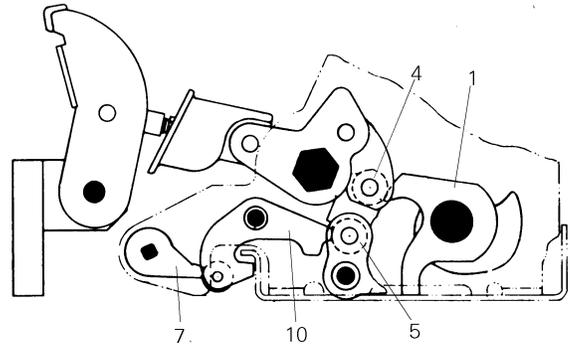

Figure 5-8. Breaker mechanism in the CLOSED position.
Figures 5-8, 5-9, and 5-10 show the mechanism components in the CLOSED, TRIPPED, and RESET conditions, respectively. Numbers in parentheses refer to the indicated items in the figures listed in Table 5-1. The closing spring is in the charged position for all of these details.
*Closed Position* – The movable contacts are pushed against the stationary contacts by the toggle linkage, as illustrated in Figure 5-8. The toggle linkage is held in position through the engagement of its cam roller (4), with the prop (1), the secondary latch/roller (5), the secondary latch (10), and the trip latch (7).
The breaker closes when the closing spring discharges and rotates the cam (2) against the cam roller (4). The toggle linkage is fully extended, pivoting the secondary latch (10) from the front frame and engaging it with the trip latch (7) and cam roller (4), as shown in Figure 5-8.
Table 5-1. Key to numbered parts in Figures 5-8, 5-9, and 5-10.